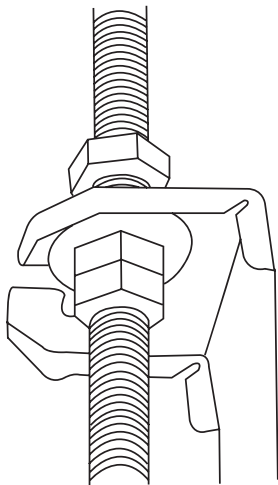

Fig. 4.5
5. Mount the indoor unit. You will need two people to lift and secure it. Insert suspension bolts into the unit's hanging holes. Fasten them using the included washers and nuts (See Fig. 4.5).